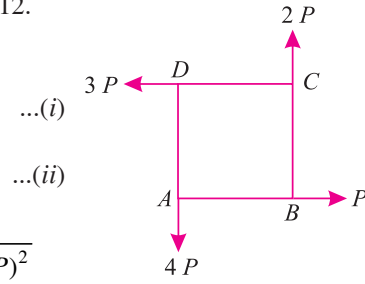

Fig. 3.12.
**Solution.** The system of given forces is shown in Fig. 3.12.